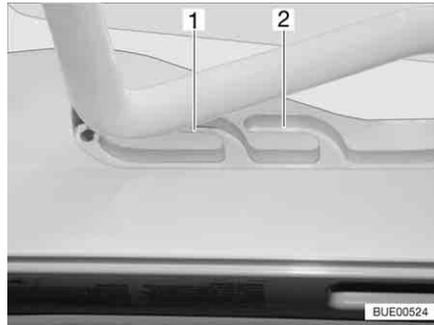
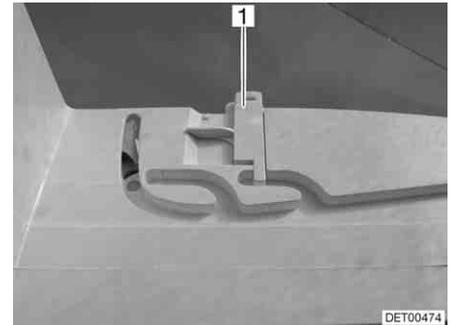

Fig. 72 Heki skylight in ventilation position
Fig. 73 Ventilation position locking mechanism
The Heki skylight can be put in two ventilation positions: Bad weather position (Fig. 72,1) and central position (Fig. 72,2). Depending on the model, the skylight can be locked in the central position with both left and right latches (Fig. 73,1) on the skylight frame.
- Push the bar slightly upwards and into the selected guide (Fig. 72,1 or 2) and lock if necessary.